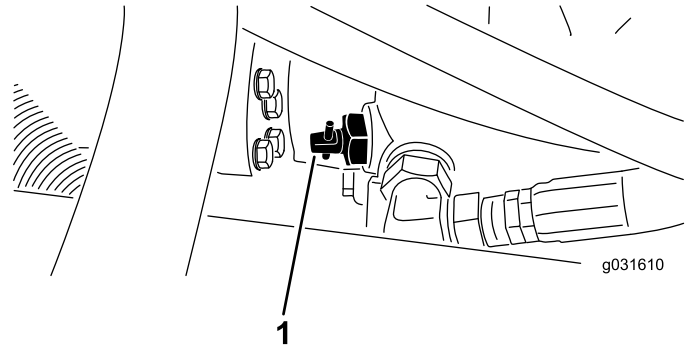

Figure 29
1. Locate the bypass valve on the pump and rotate it 90° (Figure 29).